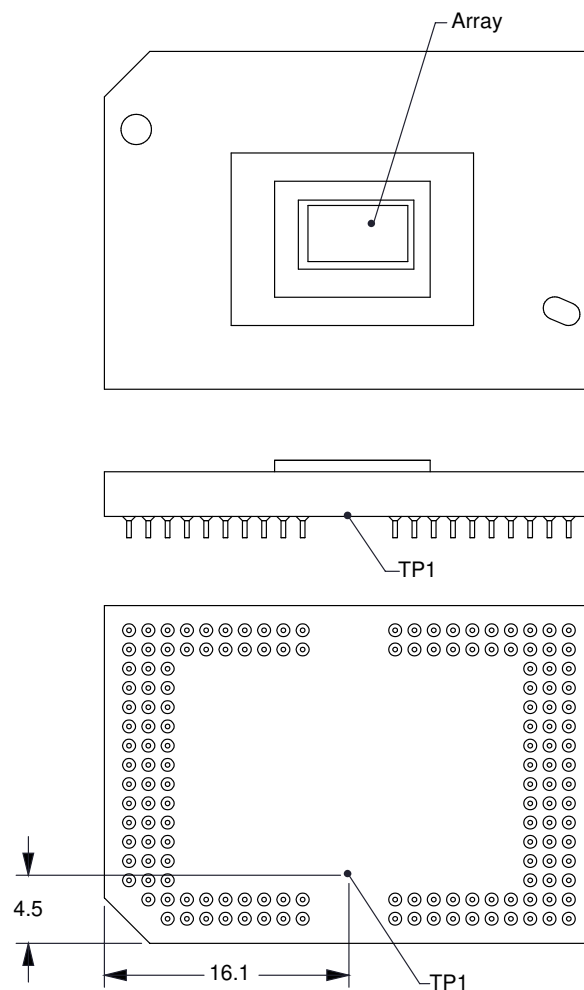

Figure 17. Thermocouple Locations
Relationship between array temperature and the reference ceramic temperature (thermocouple location TP1 in Figure 17) is provided by the following equations.
- T_{CERAMIC} = measured ceramic temperature (TP1 location in Figure 17) (°C)